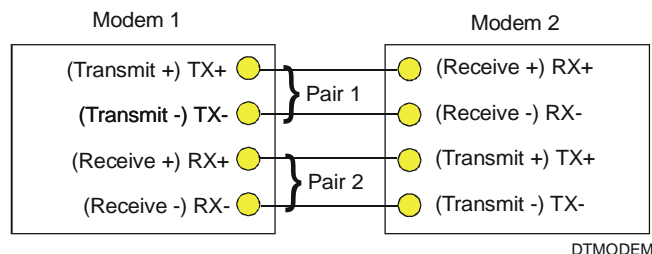
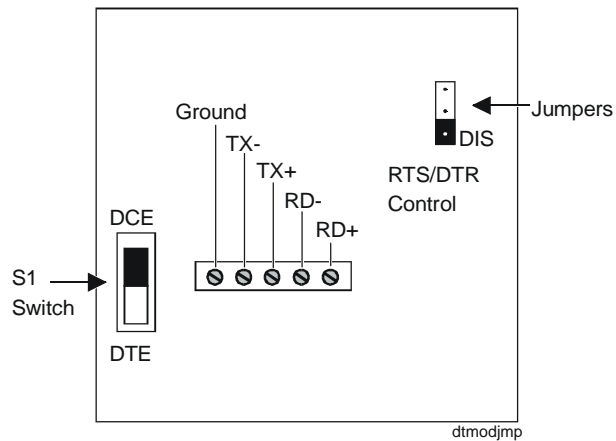
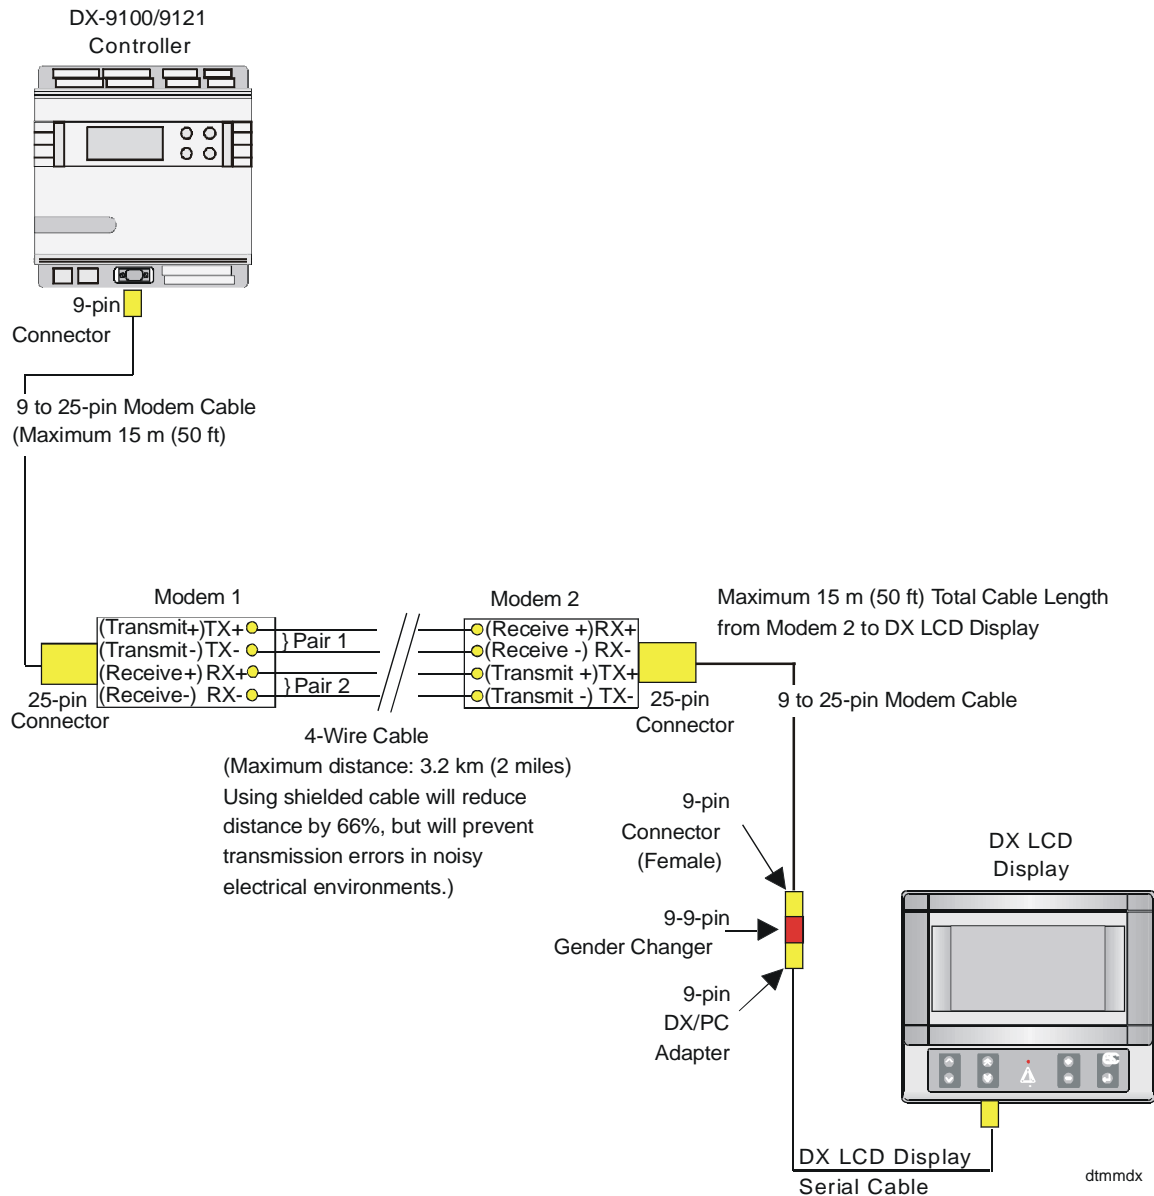

Figure 3-12: Modem Wiring
Figure 3-13: Modem Jumper and Switch Settings
Figure 3-14: Extension Cabling
Cable a Permanently Mounted Device	<p>To establish a direct connection to the DX controller:</p> <p>Connect the serial communications cable into the phone jack labeled RS232 INPUT on the display unit.</p> <p>Plug the other end of the serial communications cable into the 9-pin adapter marked DX/PC and plug the DX/PC adapter into the DX controller.</p> <p>If required, wire the alarm contacts to the alarm horn.</p> <p>Use the 24 VAC supply voltage available at the DX controller to power the DX LCD Display.</p> <p>To extend the serial cable with line drivers:</p> <p>Wire the short-haul modem using Figure 3-12 as a guide.</p> <p>Use the cable provided with the modem to connect the DX controller to Modem 1.</p> <p>Using Figure 3-13 as a guide, set the S1 switch and the RTS/DTR control jumper.</p> <p>Using Figure 3-14 as a guide, connect the cables to the DX LCD Display and Modem 2 using a 9-pin connector, a 9-9-pin gender changer, and a 9-pin DX/PC adapter.</p> <p>Set the S1 switch and the RTS/DTR control jumper on Modem 2 as shown in Figure 3-13.</p> <p>Plug in the power supply for each modem.</p> <p>Apply power to the DX LCD Display.</p>
1. Use 4-wire 0.6...0.8 mm (24...22 AWG) unshielded twisted pair telephone cable to wire the short-haul modems so Transmit + (TX+) on one modem is wired to Receive + (RX+) on the other modem and Transmit - (TX-) is wired to Receive - (RX-). A ground connection is optional. See Figure 3-12.
3. Plug cable's 25-pin connector into Modem 1. See Figure 3-14.
5. Set the RTS/DTR control jumper to DIS position. See Figure 3-13.
10. Connect the 25-pin end to Modem 2. See Figure 3-14.